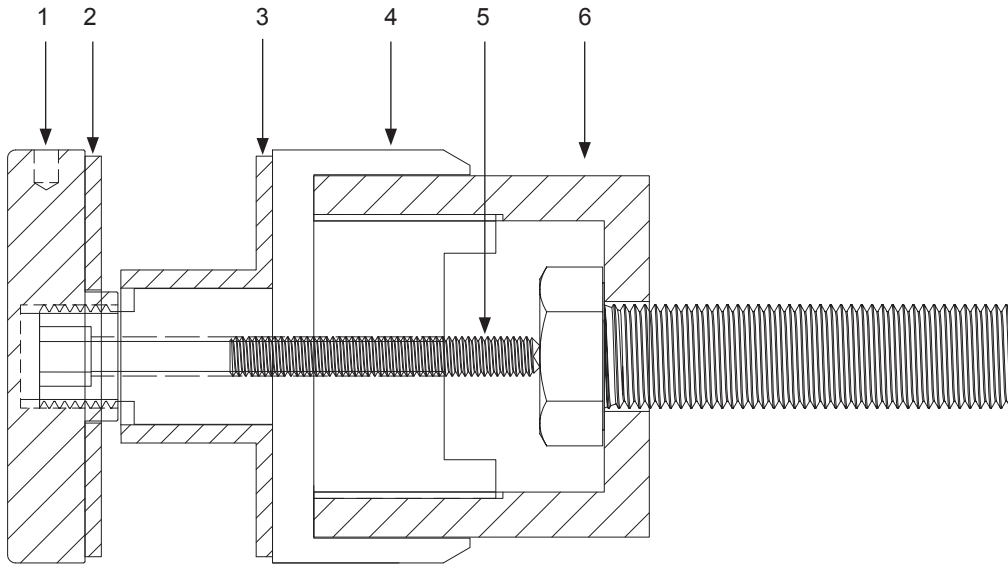

Figure 2a
b. Full assembly shown in Figure 2a below.